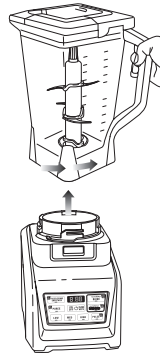

Fig. 9
- 15 Turn the pitcher anticlockwise to remove and then lift off the base. **(Fig. 9)**